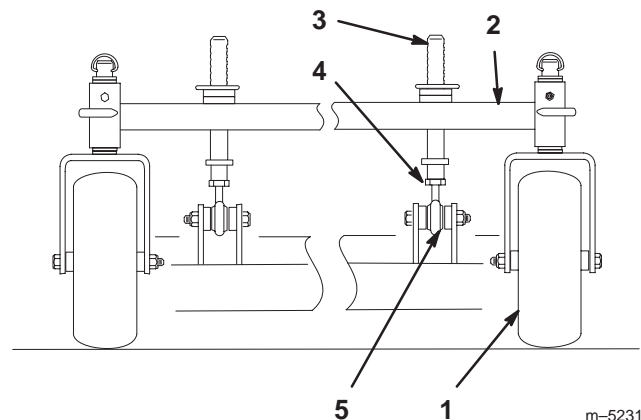

Figure 64
1. To change the front-to-rear pitch, the front height-of-cut posts can be adjusted (Fig. 64).
2. To raise the front of the deck, loosen jam nut and rotate the front pin clockwise (Fig. 64).
3. To lower the front of the deck, loosen jam nut and rotate the front pin counter clockwise (Fig. 64).